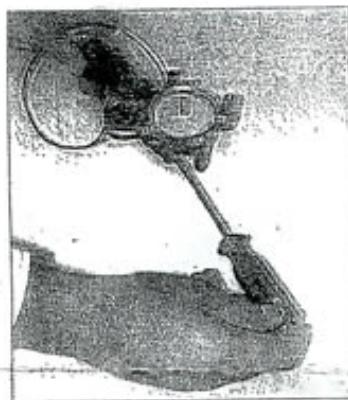

FIG. 2
3. Using a large slothead screwdriver, loosen the worm gear adjusting screw by 1 1/2 to 2 turns (remember the number of turns, Do Not Remove) (Fig. 2)